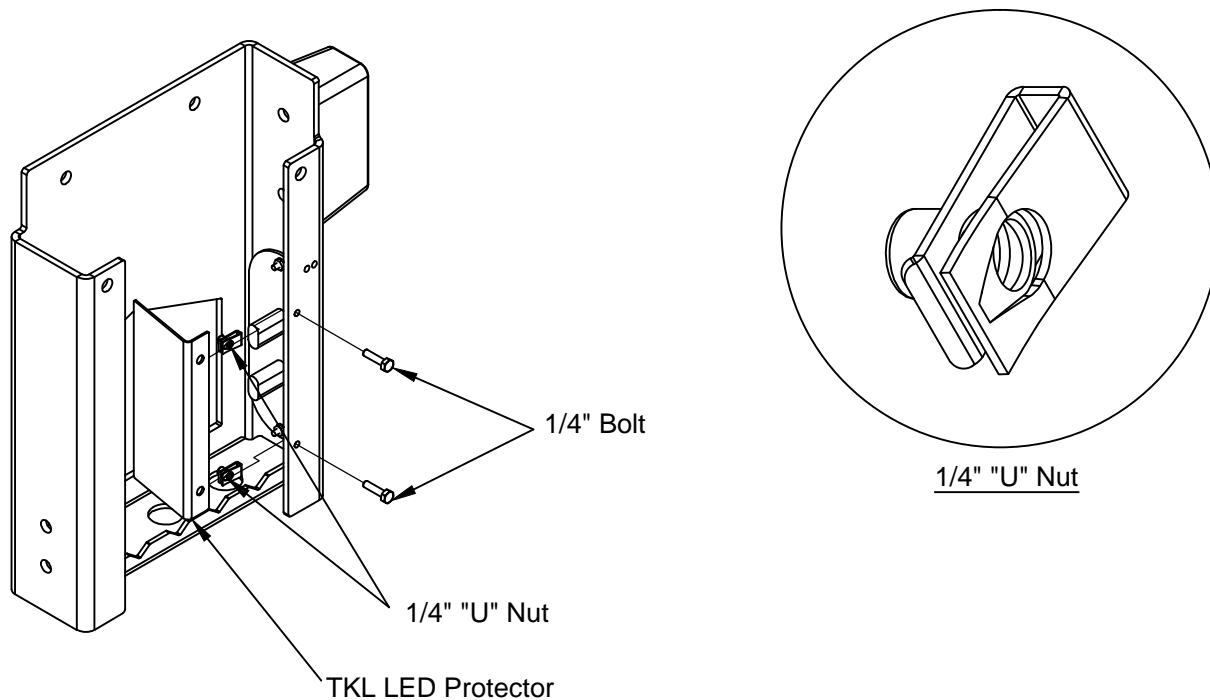

Figure 8
9. **Place** "U" nuts over bent flange on LED protector plate (Figure 8).
10. **Bolt** the LED Protector plate on the same holes where the cover plate was originally installed with the provided two (2) 1/4"x1" bolts and two (2) 1/4" "U" nuts (Figure 8).